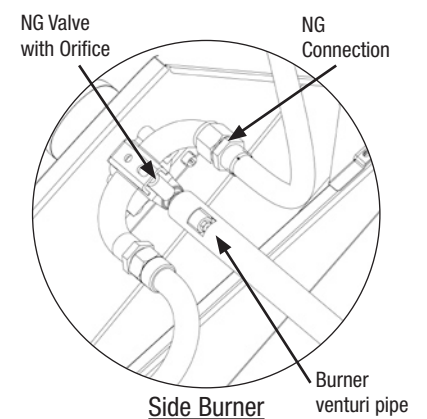

Figure 3
2. Make sure control knobs are "OFF". (Figure 3)
3. Control knob must be in the "OFF" position. (Figure 3)